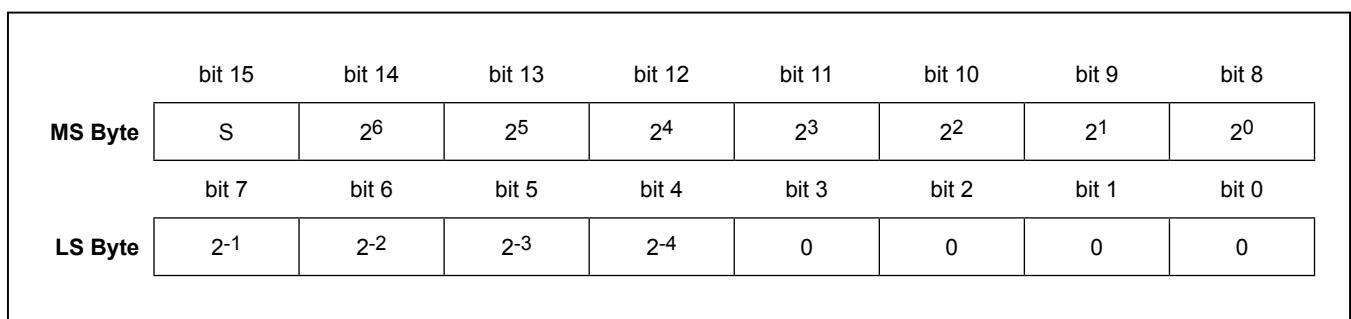

Figure 3. Temperature, T_{OS} , and T_{HYST} Register Format
After each temperature measurement and analog-to-digital conversion, the DS75LV stores the temperature as a 16-bit two's complement number in the 2-byte temperature register (see Figure 3). The sign bit (S) indicates if the temperature is positive or negative: for positive numbers S = 0 and for negative numbers S = 1. The most recently converted digital measurement can be read from the temperature register at any time. Since temperature conversions are performed in the background, reading the temperature register does not affect the operation in progress.
The data format of the T_{OS} and T_{HYST} registers is identical to that of the temperature register (see Figure 3), i.e., a 2-byte two's complement representation of the trip-point temperature in degrees centigrade with bits 3 through 0 hardwired to 0. After every temperature conversion, the measurement is compared to the values stored in the T_{OS}